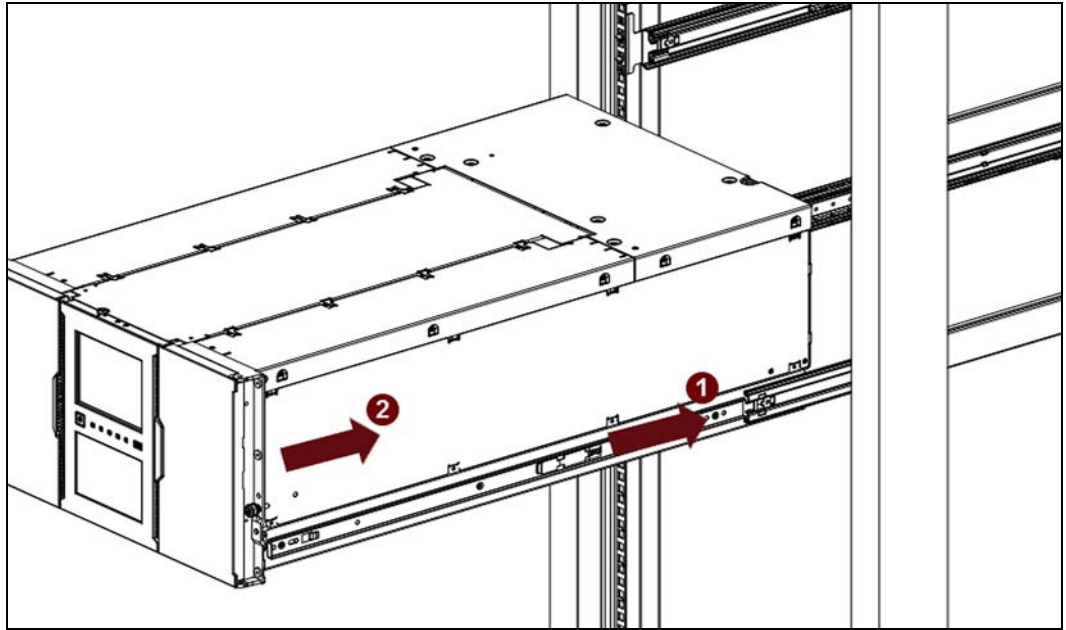

Figure 10 Slide the module into the middle rails and slide the module into the rack.
4. Slide the rails attached to the library module into the middle rails (1) (see Figure 10 on page 27).
- Slide the library module into the rack (2).